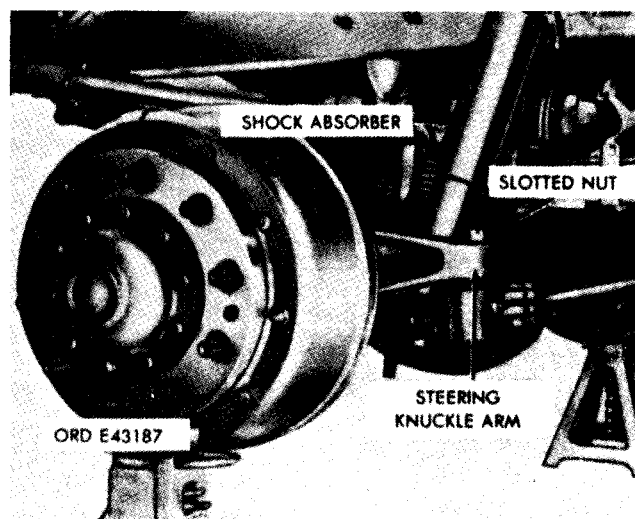

Figure 2-204. Front axle assembly with wheel and tire assembly removed.
*a. Removal (fig. 2-204).*
*b. Installation (fig. 2-204).*
(1) Insert the tie rod end studs in the steering knuckle arm holes.
(2) Install two slotted nuts, one on each stud, and torque nuts 140 to 180 lb-ft for all models with exception of M39, M39A2 chassis, M41 and M41A2 cargo trucks.
(3) Install cotter pins to the slotted end nuts. Lower the wheels, and adjust the toe-in (para 2-214e).
(4) Lubricate the rod in accordance with L0 9-2320-211-12.